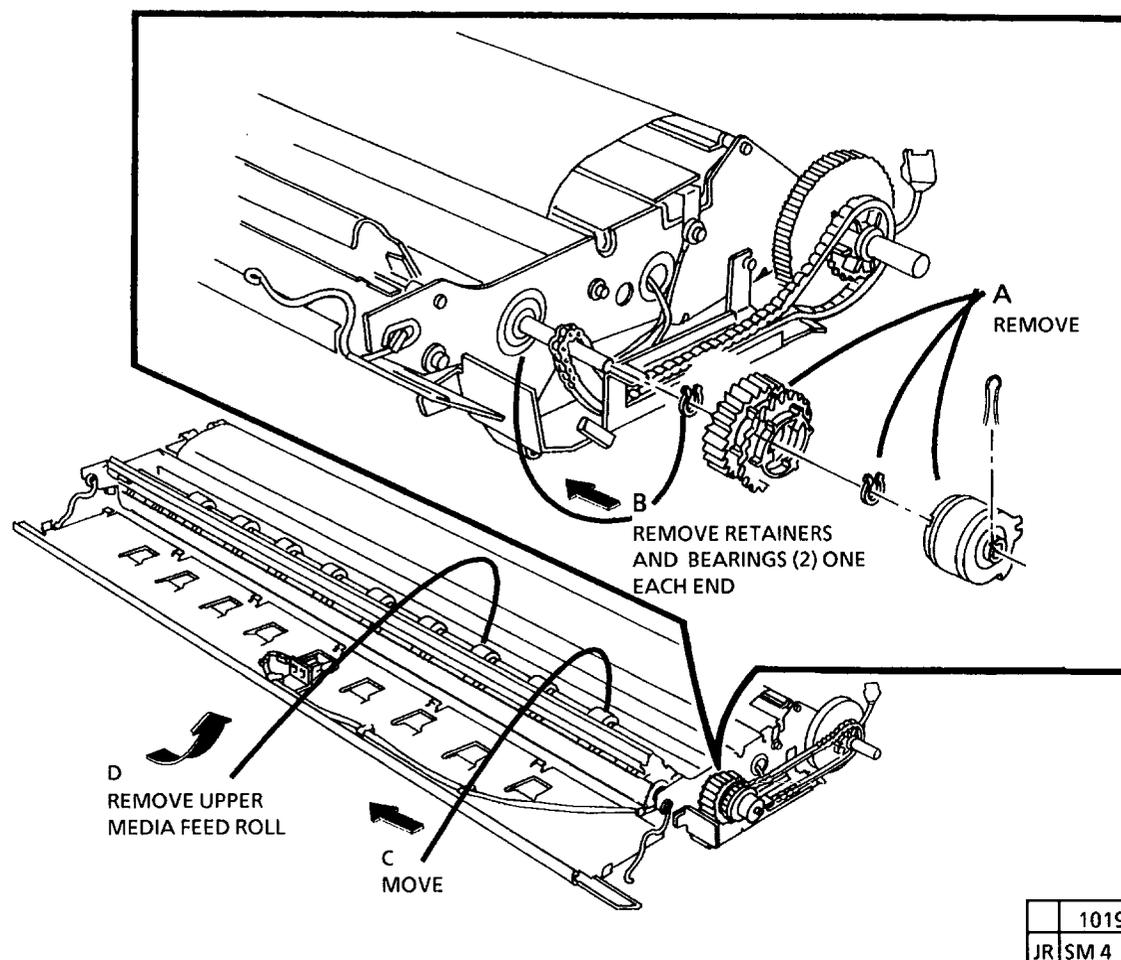

Figure 3. Remove the Upper Media Feed Roll
7. (FIGURE 3): REMOVE THE UPPER MEDIA FEED ROLL.